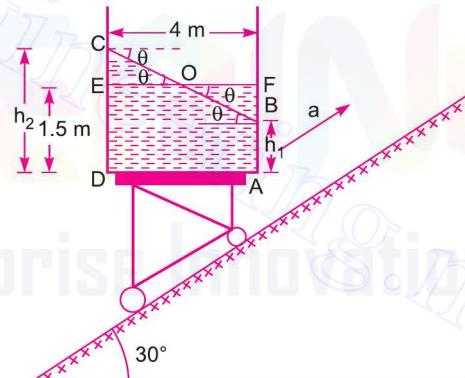

Fig. 3.53
**Problem 3.38** A tank contains water upto a depth of 1.5 m. The length and width of the tank are 4 m and 2 m respectively. The tank is moving up an inclined plane with a constant acceleration of 4 m/s2. The inclination of the plane with the horizontal is 30° as shown in Fig. 3.53. Find,
When the tank is stationary on the inclined plane, free surface of liquid will be along *EF* as shown in Fig. 3.53. But when the tank is moving upward along the inclined plane the free surface of liquid will be along *BC*. When the tank containing a liquid is moving up an inclined plane with a constant acceleration, the angle made by the free surface of the liquid with the horizontal is given by
From Fig. 3.53, in triangle  $COE$ ,  $\tan \theta = \frac{CE}{EO}$